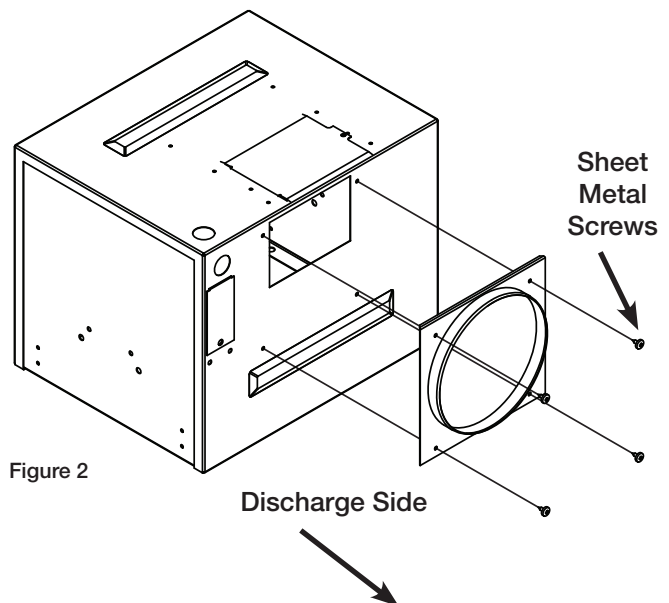

Figure 2
2. Attach the round duct connector to the blower box assembly using the four (4) original sheet metal screws. Refer to Figure 2.